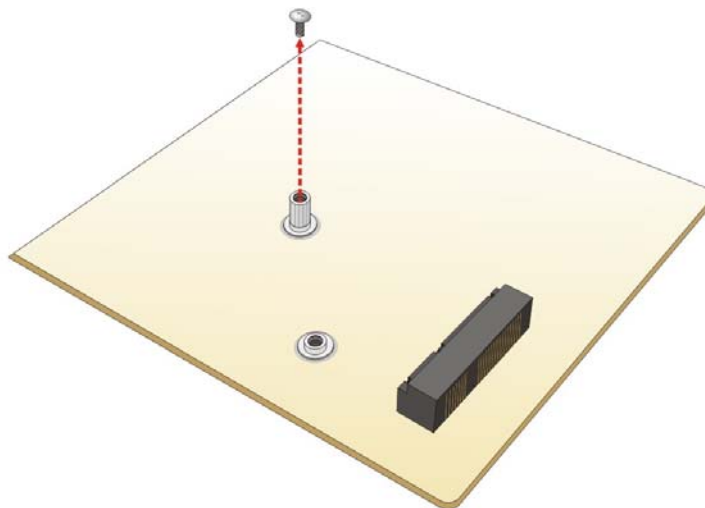

Figure 4-3: Removing the Retention Screw
Step 2: Remove the retention screw. Remove the retention screw as shown in Figure 4-3.